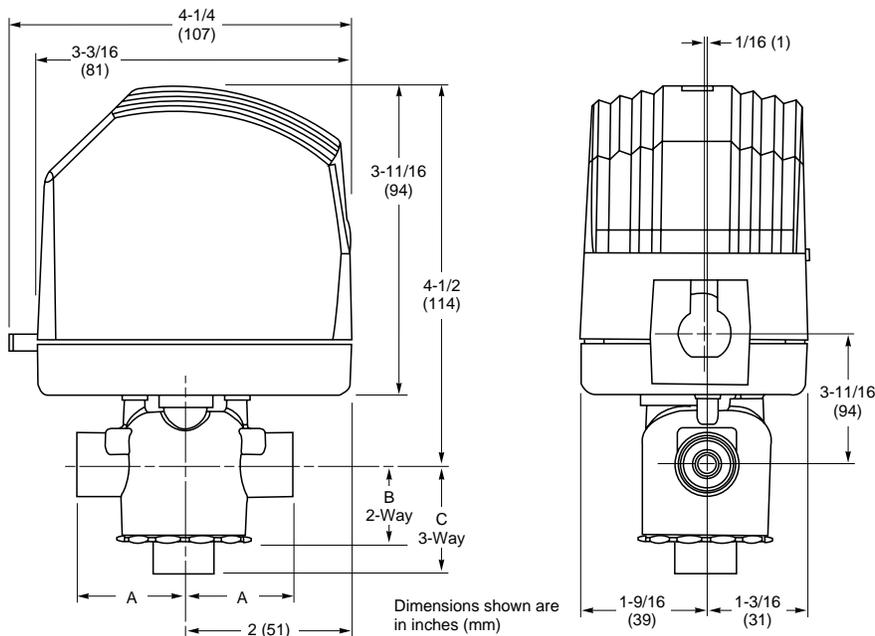

Figure-9 VM Series Spring-Return Modulating PopTop Valve Mounting Dimensions.
**Table-1 Valve Mounting Dimensions (Figure-9).**